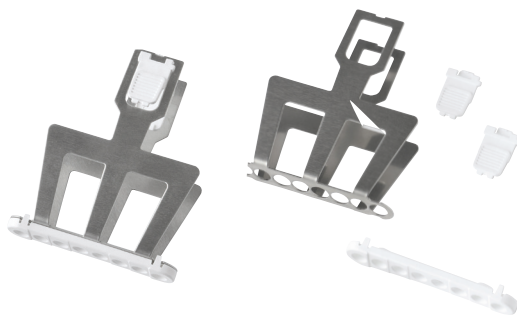

Figure 19
6. Lubricate the piston, see Figure 19 on page 27.